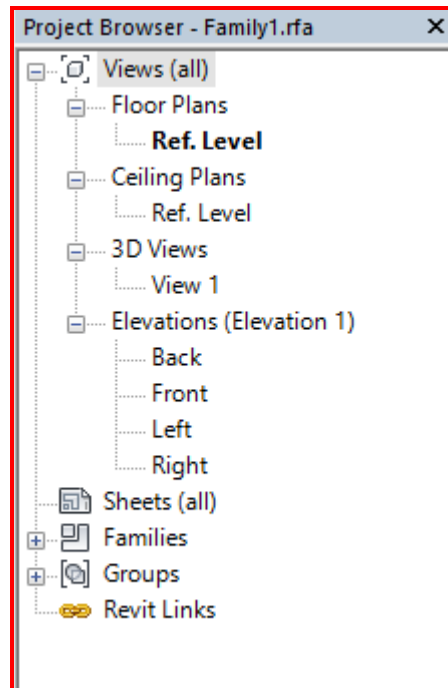

Figure 2.3
4. The views available in the project browser. (Default template) the templates that are installed with the Revit MEP software include some standards views, families, etc. for specific types of projects as shown in Figure 2.3.